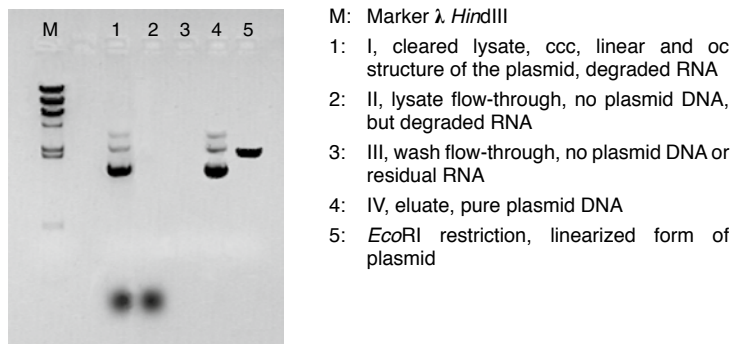

Figure 6 Exemplary analytical check of NucleoBond® Xtra Midi purification samples
The exemplary gel picture (Figure 6) will help you to address the specific questions outlined in the following section more quickly and efficiently.
- Check plasmid content in the cleared lysate (see Figure 6). Use colonies from fresh plates for inoculation and add fresh selective antibiotic to plates and media.
- Too much cell mass was used. Refer to section 4.5–4.8 regarding recommended culture volumes and lysis buffer volumes. Check plasmid content in the cleared lysate (see Figure 6).
- Check plasmid content in the wash fractions (see Figure 6). Keep all buffers tightly closed. Check and adjust pH of Buffer EQU (pH 6.5), WASH (pH 7.0), and ELU (pH 9.0) with HCl or NaOH if necessary.
<p>pH or salt concentration of wash buffer is too low</p> <ul style="list-style-type: none"> • Check RNA content in the wash fractions (see Figure 6). Keep all buffers tightly closed. Check pH of Buffer EQU (pH 6.5) and WASH (pH 7.0) and adjust with HCl or NaOH if necessary. • Increase wash buffer stringency by adjusting pH of Buffer WASH to 7.5.